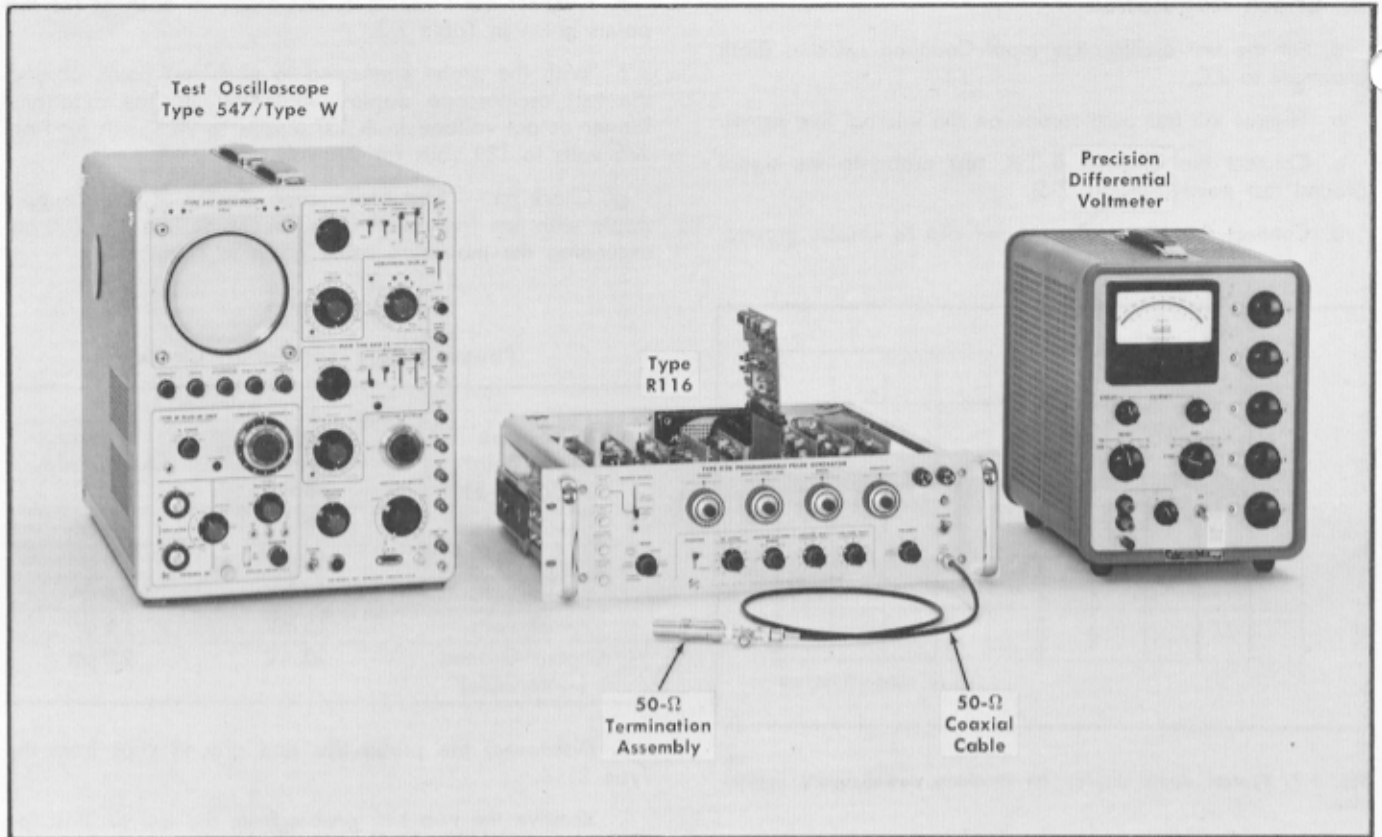

Fig. 7-8. Initial test equipment setup for calibration steps 4 through 6.
- a. Test equipment setup is shown in Fig. 7-8.
- c. Extend the Series F circuit card (Pulse Shape Generator) as shown in Figs. 7-8 and 7-9.